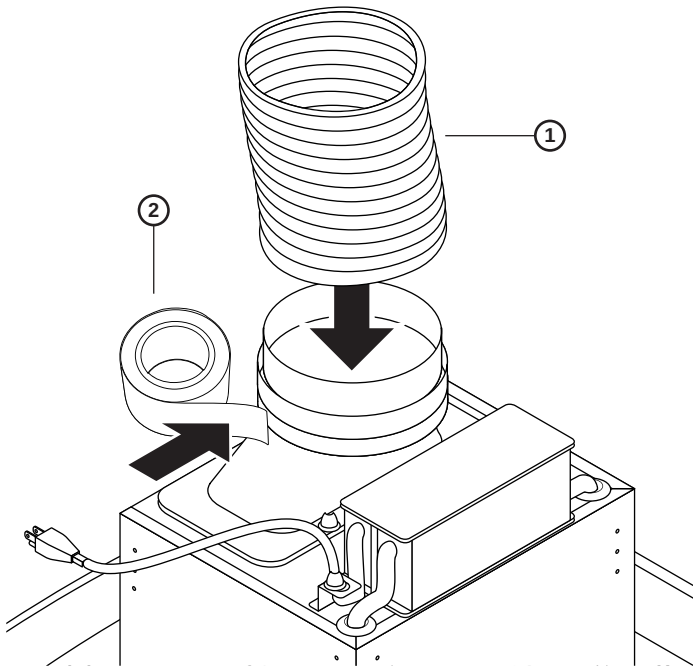

Figure 3
7. Connect the aluminum flexible duct to the exhaust outlet on top of the range hood and seal it with aluminum foil tape, as shown in Figure 3.